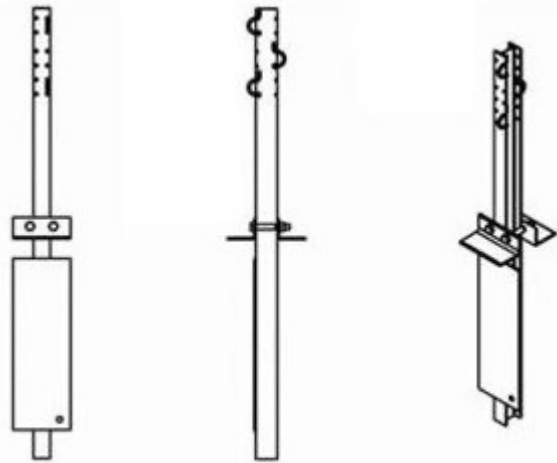

Figure 4
3. Place a bearing angle (PN-9021G) on each side of the post 4 at the ground line (See Figure 4).
4. Place two (2) hex bolts (PN-4779G) and flat washers (PN-3701G) through the two (2) bearing angles. Place a hex nut (PN-3711G) and flat washer (PN-3701G) on the bolt. Tighten the nuts to a snug position with a minimum of two (2) bolt threads protruding beyond the nut.